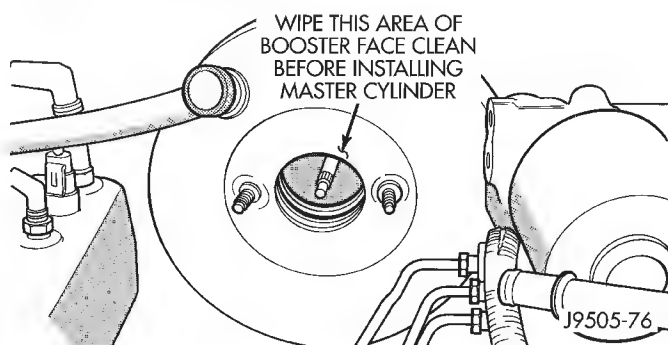

Fig. 23 Cylinder Mounting Surface Of Brake Booster
(4) Clean cylinder mounting surface of brake booster (Fig. 23). Use shop towel wetted with brake cleaner for this purpose. Dirt, grease, or similar materials will prevent proper cylinder seating and could result in vacuum leak.